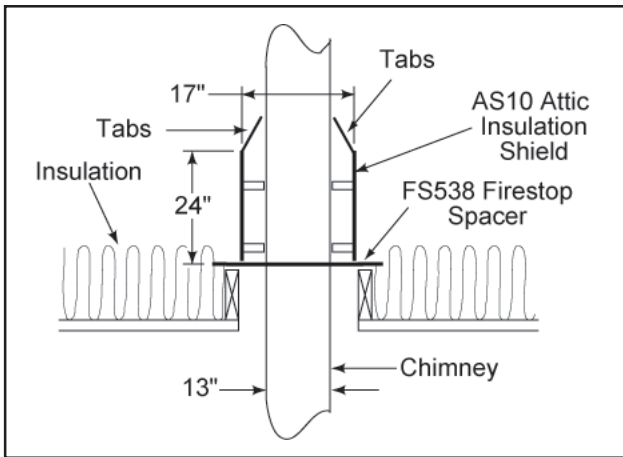

Figure 12 - Installing an Insulation Shield
- c. Slide the shield down until it rests on the firestop spacer. The firestop spacer will support the insulation shield. See Figure 12.